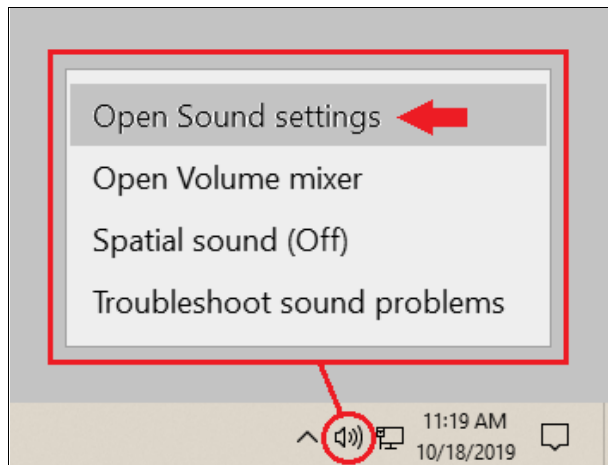

Figure 10 - Speaker icon
- As shown below in Figure 10, locate the speaker icon on the Windows task bar (lower right-hand corner of the Windows desktop).